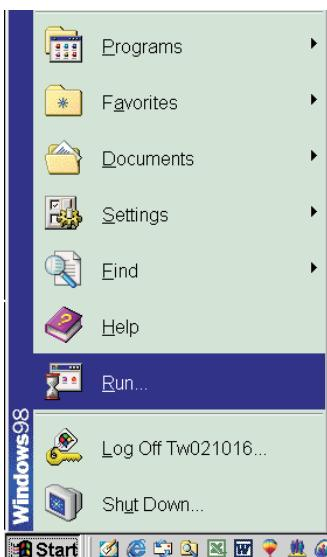

Fig. 4
2. Click , choose Run at start menu of Windows as shown In Fig. 4.